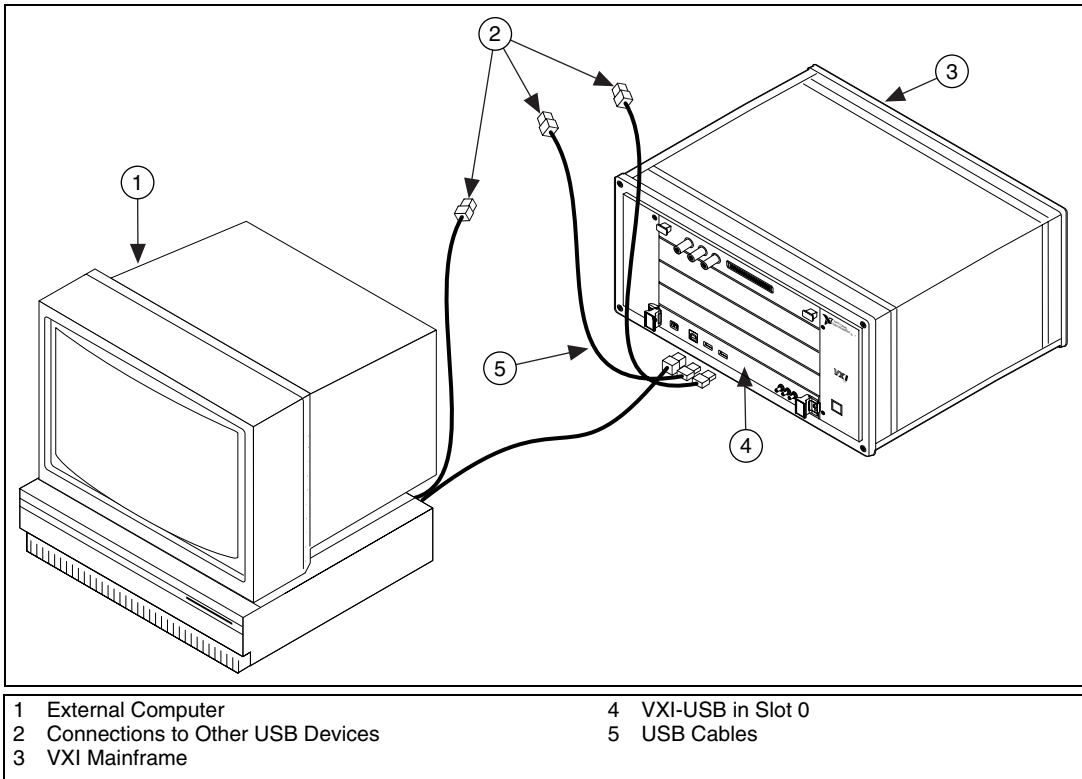

Figure 1-1. USB System
Figure 1-1 shows a system that includes a USB 2.0-equipped computer, a VXI-USB, and USB devices.
3. Insert the VXI-USB into the chassis in Slot 0, as shown in Figure 1-1.
Connect the USB cable to a USB connection in your host PC and to the VXI-USB, as shown in Figure 1-1. You can use any available USB port on the computer for each device. The VXI-USB has two external ports for devices. You can connect any other USB devices to any available port on a VXI-USB, but for best performance, minimize the number of USB devices/hubs in the system. Adding to the number of devices in the tree degrades system performance.